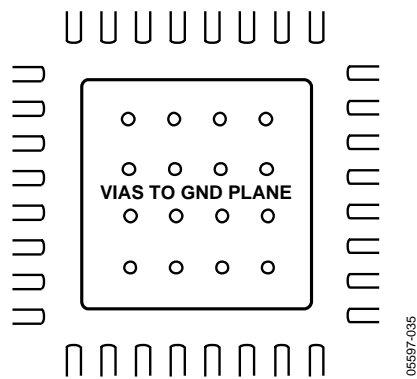

Figure 34. PCB Land for Attaching Exposed Paddle
**The exposed paddle of the AD9515 package must be soldered down.** The AD9515 must dissipate heat through its exposed paddle. The PCB acts as a heat sink for the AD9515. The PCB attachment must provide a good thermal path to a larger heat dissipation area, such as a ground plane on the PCB. This requires a grid of vias from the top layer down to the ground plane (see Figure 34). The AD9515 evaluation board (AD9515/PCB) provides a good example of how the part should be attached to the PCB.